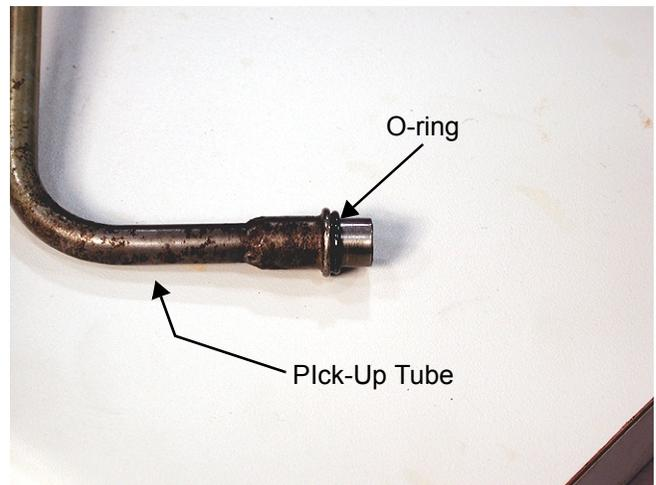

Figure 4
4. Inspect the o-ring at the end of the hydraulic pick up tube. See Figure 4.